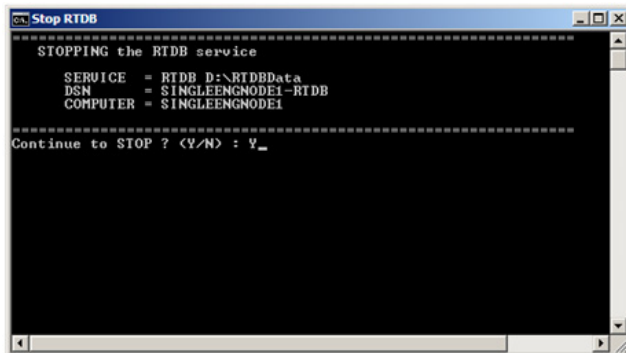

Figure 33. Confirmation Prompt for stopping RTDB
3. Double-click the **Stop RTDB** batch file and type 'Y' in the confirmation prompt as shown in Figure 33 to stop the main real time database service in History Embedded Data Collector Node.